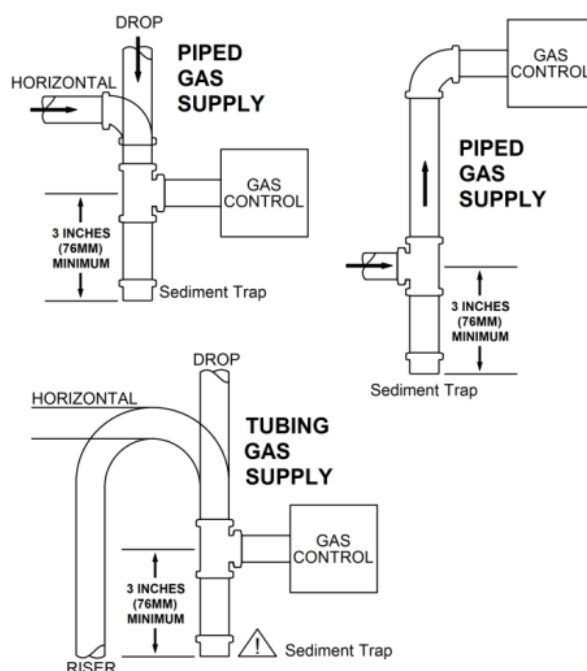

Figure 17 - Sample Gas Supply Sediment Traps
NFPA Code and Hearthstone require the use of a dedicated sediment trap just upstream of the unit. Damage to the valve, or other components due to the lack of a sediment trap are not covered by warranty (see Figure 17 - Sample Gas Supply Sediment Traps).
- Install the sediment trap (where required) in the gas supply line to prevent contamination of the gas valve (see Figure 17 - Sample Gas Supply Sediment Traps)